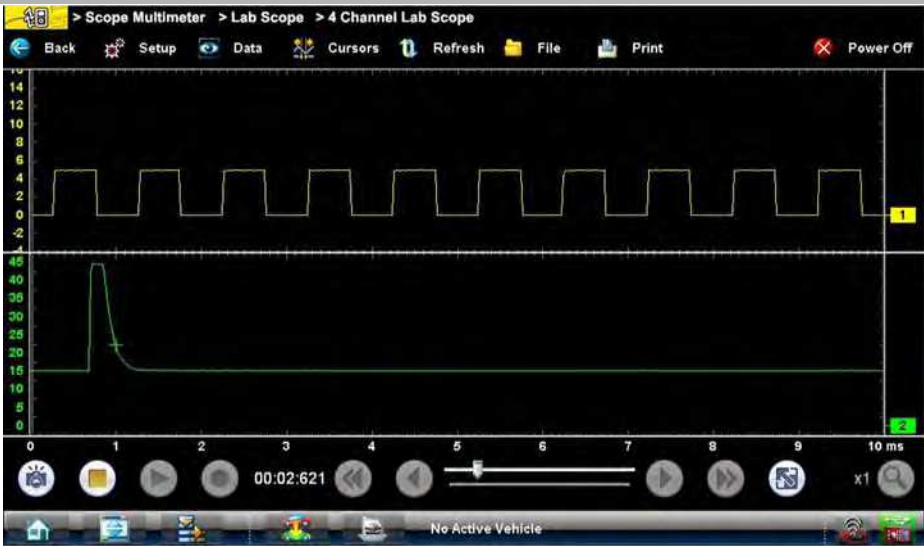
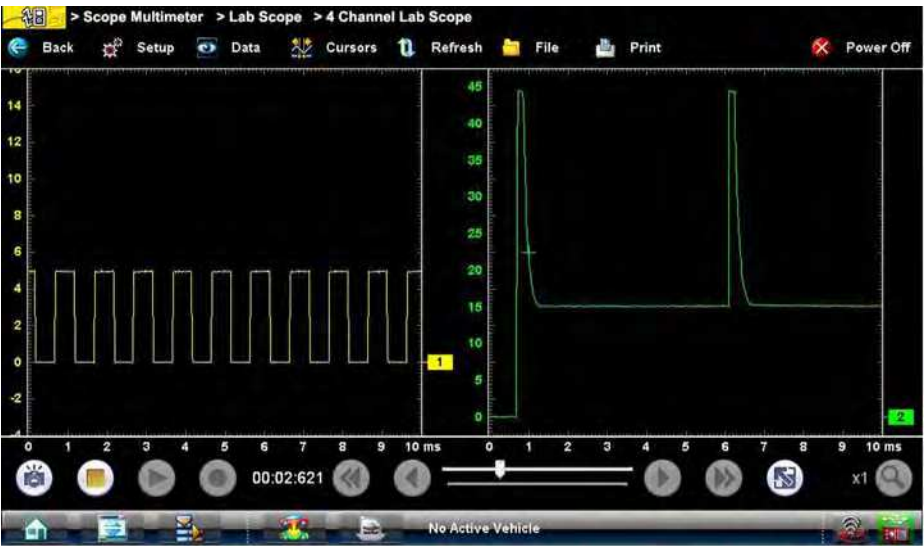

Figure 8-24 Sample 2 Windows horizontal display
Figure 8-25 Sample 2 Windows vertical display
- **2 Windows**—shows two separate traces in two ways: horizontal, one below another (Figure 8-24) or vertical, side-by-side (Figure 8-25)